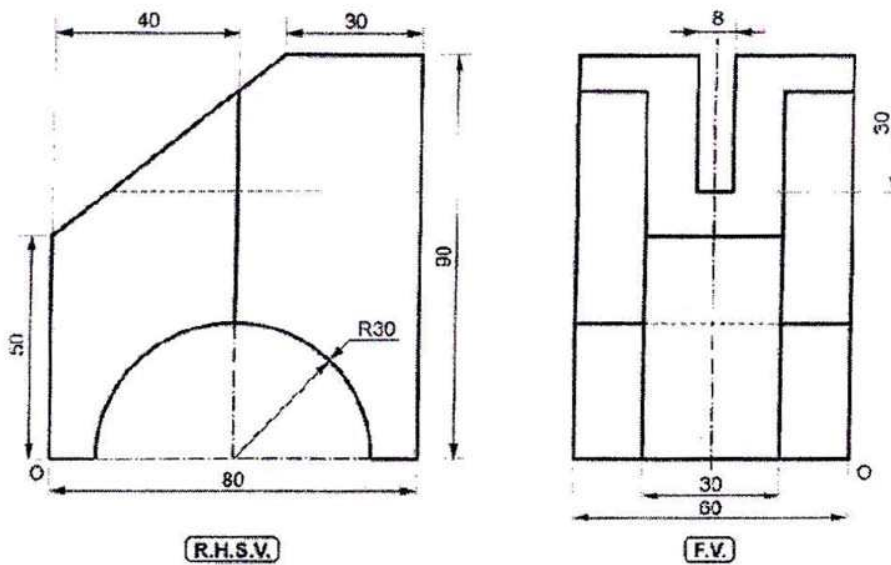

Fig. No. 6
8. The following Fig. No. 6 shows Elevation and Right hand side view of the object draw its Isometric View. Retain all the Construction lines and Construction you have made. [17+3=20]